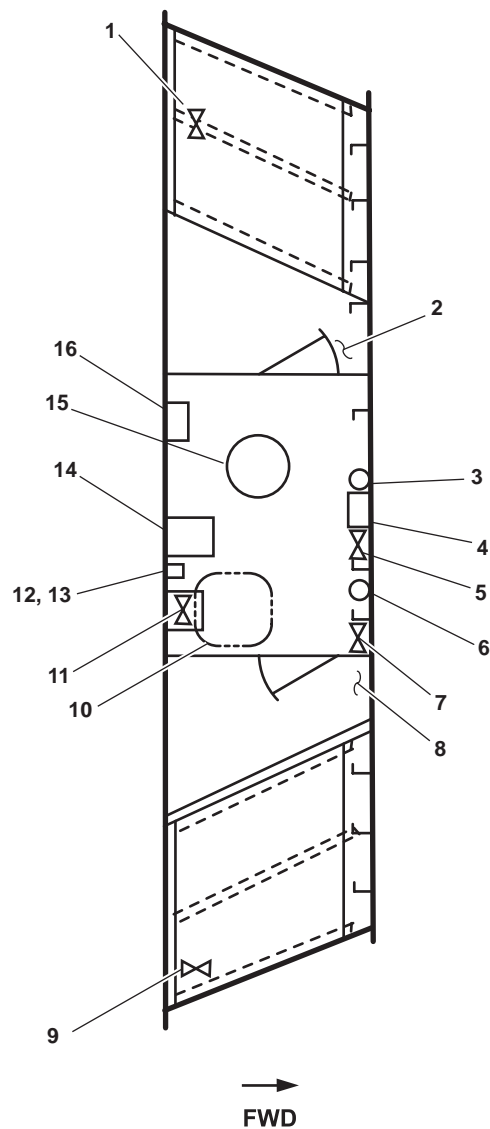

Figure 3. Bow Thruster Compartment
1. OVBD. DISCH. BILGE EDUC valve BB-9 (figure 3, item 1). Valve BB-9 in the OPEN position allows bilge contents to be discharged overboard using eductors.
2. Port stowage locker and shelves (figure 3, item 2). The stowage locker and shelves provide storage space.
3. General alarm bell (figure 3, item 3). The general alarm bell signals various emergency conditions on the vessel.
4. Space heater (figure 3, item 4). The space heater provides heat for the bow thruster compartment.
5. GS-44, BILGE EDUC. shutoff valve (figure 3, item 5). This valve secures the raw water flow from the general service system to the eductors.
6. Eductor pressure gauge (figure 3, item 6). The eductor pressure gauge indicates the general service system pressure available to the eductor.
7. Shutoff valve (figure 3, item 7). This valve secures the general service system pressure to the eductor pressure gauge.
8. Starboard stowage locker and shelves (figure 3, item 8). The stowage locker and shelves provide storage space.
9. Shutoff valve PW-19, C.W. TO W.C. (figure 3, item 9). This valve secures the cold potable water flow to the water closet.
10. Hatch (figure 3, item 10). The hatch provides entrance/exit to the bow thruster compartment from the boatswain's locker space.